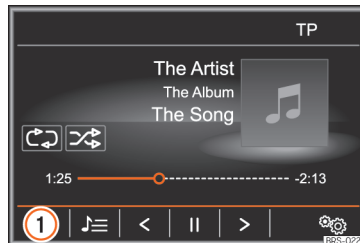

Fig. 211 MEDIA main menu.
- In the MEDIA main menu, press function button »» **Fig. 211 ①** and select **[BT audio]**.